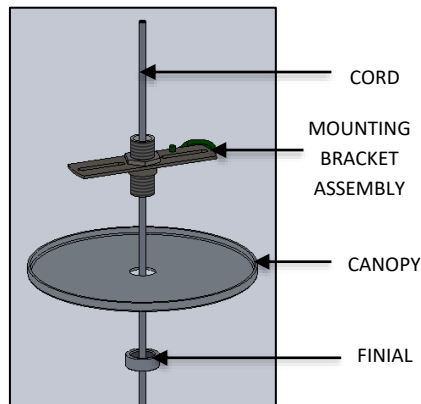

FIG. 17 – CORD INSTALLATION
3. Insert CORD into CANOPY FINIAL (THREADS UP), CANOPY, AND MOUNTING BRACKET. Adjust fixture drop to desired height as shown below in FIG. 17.